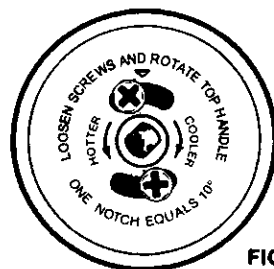

FIG. 2
**Example:** If the oven temperature is too cool and ALL foods are requiring a longer time period to cook, the knob should be rotated to move the top screw toward the word "HOTTER". (See Fig 2.)